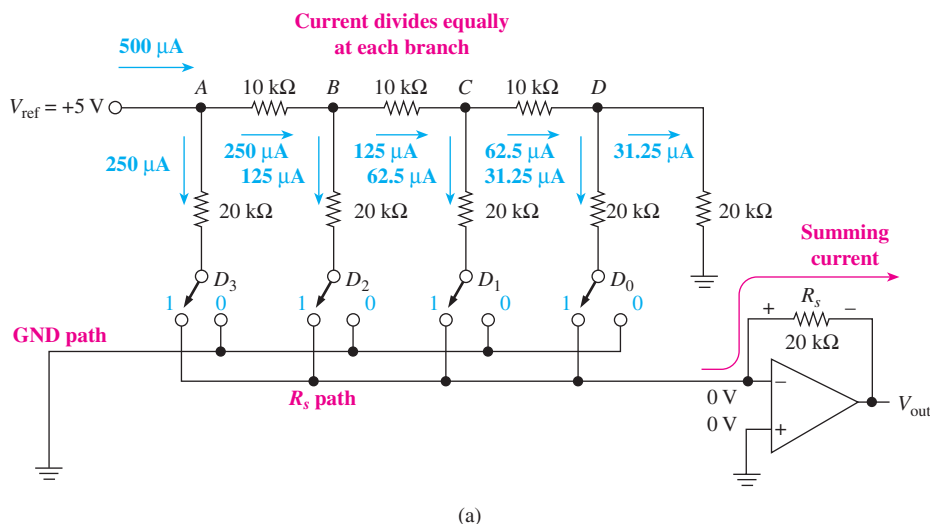

Figure 15-6 $R/2R$ ladder D/A converter: (a) Current division;
This circuit, which is designed in the shape of a ladder, is an ingenious way to form a binary-weighted current-division circuit. Refer to Figure 15-6(a) to see how we arrive at the current levels and value of V_{out} . First, keep in mind the op-amp rules presented in Section 15-2. In particular, remember that the $(-)$ input to the op amp is at virtual ground, and any current that reaches this point will continue to flow past it, up through the summing resistor (R_s). With this knowledge, we can determine that the resistance of, and the current through, each rung of the ladder is unaffected by the position of any of the data switches (D_3 to D_0). This is because (1) with a data switch in the 0 position, the bottom of the corresponding $20\text{-k}\Omega$ resistor is connected to ground and (2) when it is in the 1 position, it is connected to virtual ground, which acts the same as ground.
15-7. If V_{ref} is changed to 6 V in the $R/2R$ converter of Figure 15-6(a), the maximum value at V_{out} will be 11.25 V. True or false?